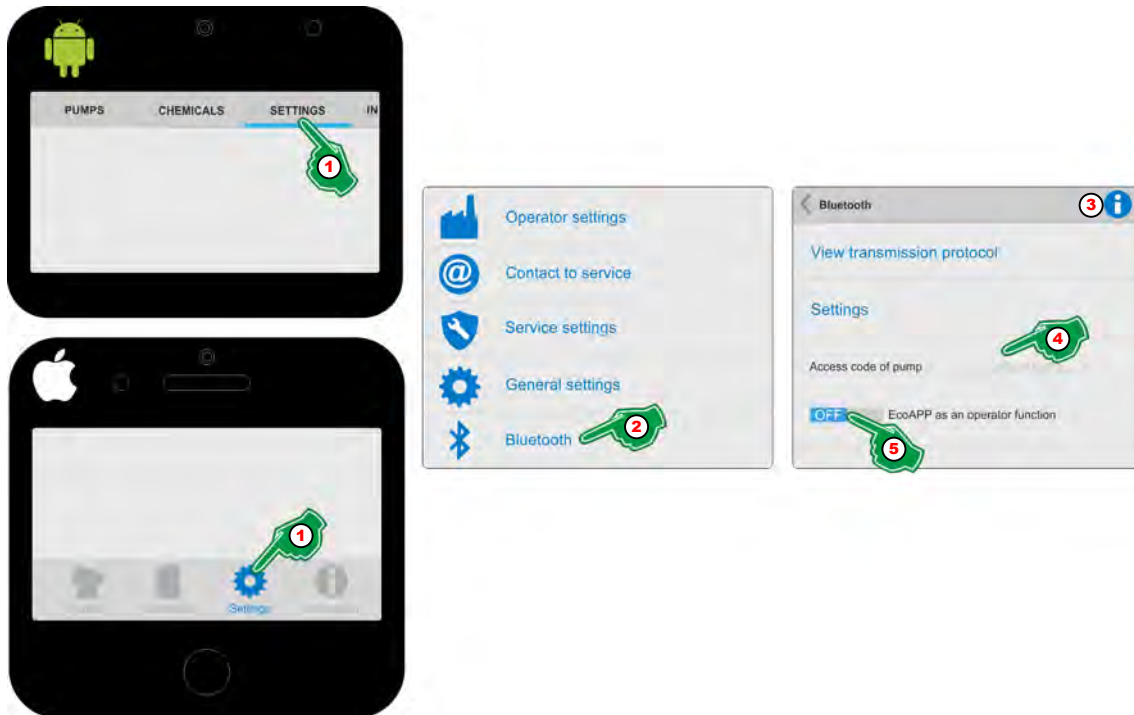

Fig. 17: Select a pump which is protected by an 'access code'
1. Select [Settings] (Fig. 17, Pos. 1).
2. Select [Bluetooth] (Fig. 17, Pos. 2).
3. With the selection of the [Info] Symbol (Fig. 17, Pos. 3), the display will be:
*If an [access code] (administrator (A) and/or operator (O)) have been input at the pump, communication is blocked via Bluetooth!
4. Enter the 'access code' for the pump (Fig. 17, Pos. 4).